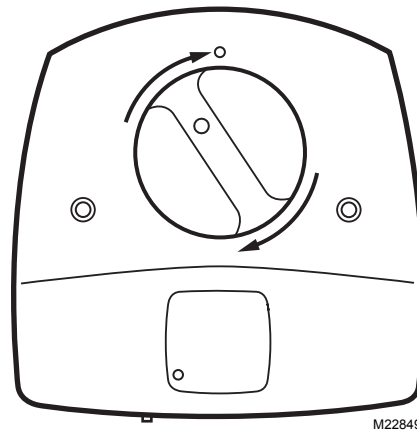

Fig. 6. Snap lamp handle into place.
13. Rotate the lamp handle clockwise until it snaps into place with the lamp light indicator aligned with the raised button on the unit cover. See Fig. 6.
- Rotate the lamp clockwise until it snaps into place with the lamp light indicator aligned with the raised button on the unit cover. See Fig. 6.